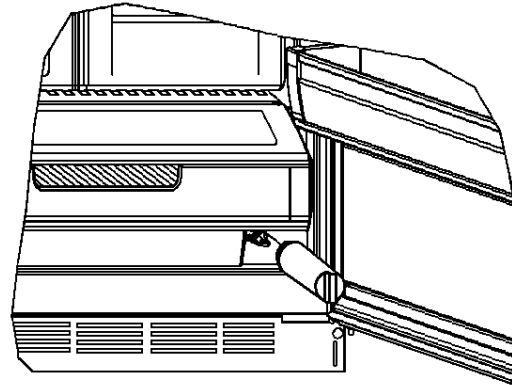

Figure 1
1. Locate water filter connection location. The connection is located under the Meat Savor™/ Produce drawer on the right hand side. (See figure 1)